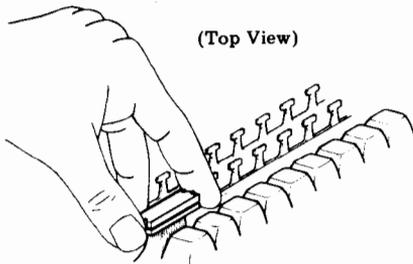

Fig. 21—Cable Connector Removal
- (f) Exert upward force until cable connector releases (Fig. 21).
- (e) Grasp the cable connector using thumb and index finger (Fig. 21).